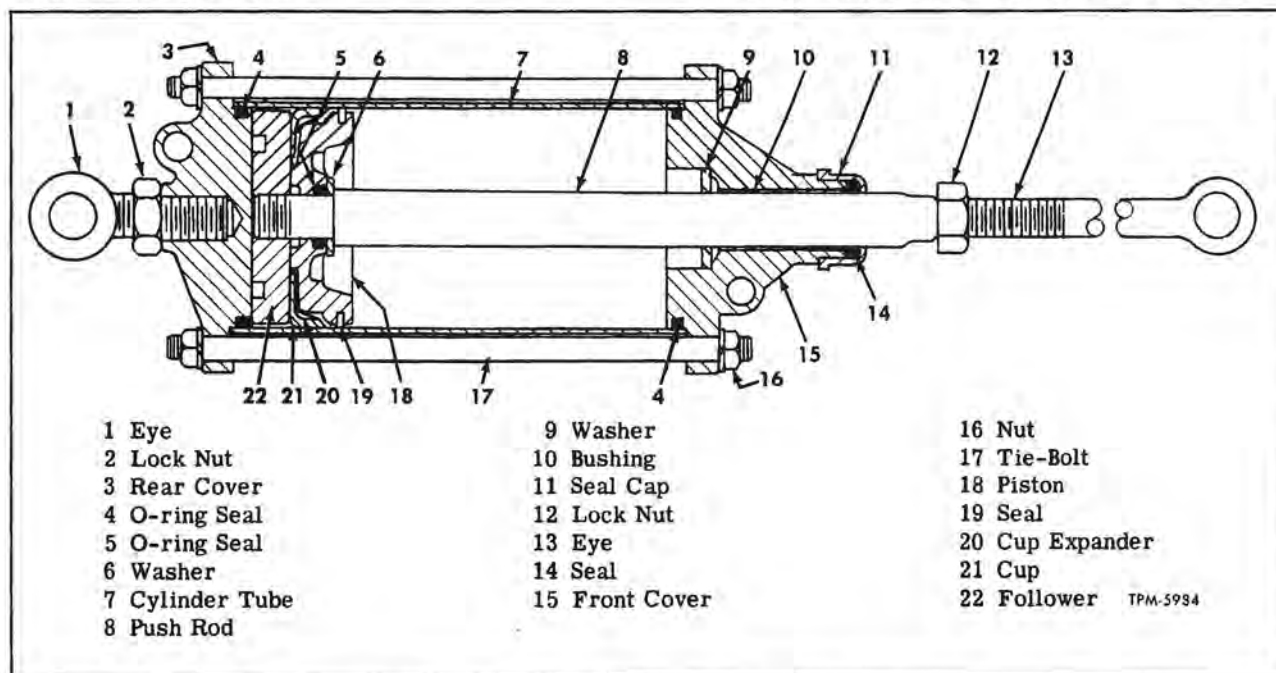

Figure 8—Rear Door Check Cylinder—Push Type Doors
Rear door check cylinder (fig. 8) is installed in compartment above door (fig. 2). When doors are pushed open, air is forced from cylinder past check ball in speed control valve mounted at pivot end of cylinder. As doors close, air is drawn into cylinder, past the speed adjustment needle of the speed control valve. Control valve meters the incoming air to control speed of closing door.
**NOTE:** Key numbers in text refer to figure 8.
1. Mark both front and rear covers (3 and 15) in relation to cylinder tube (7) to assure proper positions of parts at reassembly.
2. Remove nuts and washers from four tie-bolts (17) which retain cylinder assembly together. Remove tie-bolts and separate tube (7) and covers. Pull push-rod (8) and piston from tube.
3. Mark position of eye (13) and lock nut (12) on push rod, then remove eye and lock nut. Remove push rod from front cover.
4. Remove O-ring seals (4) from groove in front and rear covers.
5. Turn piston follower (22) from push rod, then remove piston cup (21), cup expander (20),
NOTE: Key numbers in text refer to figure 8.